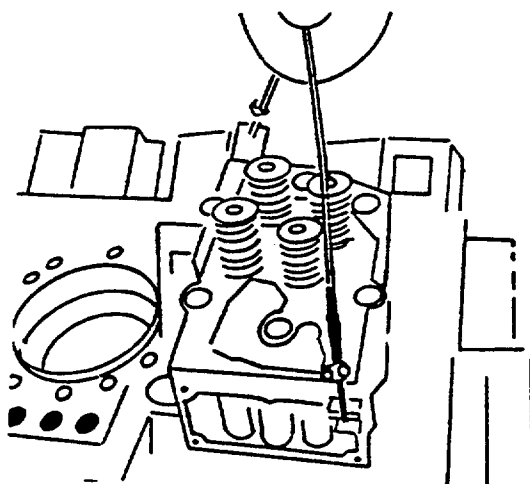

FIGURE 2-57. Lifting Sling.
- b. Attach a lifting sling to the cylinder head (FIG. 2-57).
- c. Use the lifting sling (FIG. 2-57) to position the cylinder head (3) over the dowels in the block.